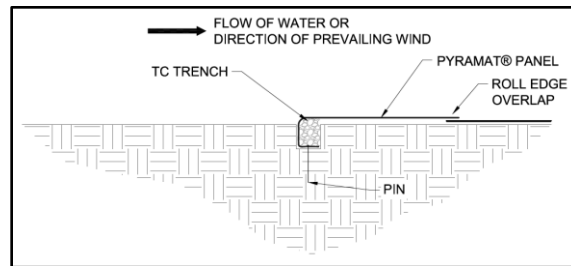

Figure 19: Terminal Channel (TC) Trench Complete
17. Fold the PYRAMAT panel over the top of the compacted TC trench (Figure 19) ensuring a minimum 3 inch (75 mm) overlap and place each panel end into the respective COS trenches.